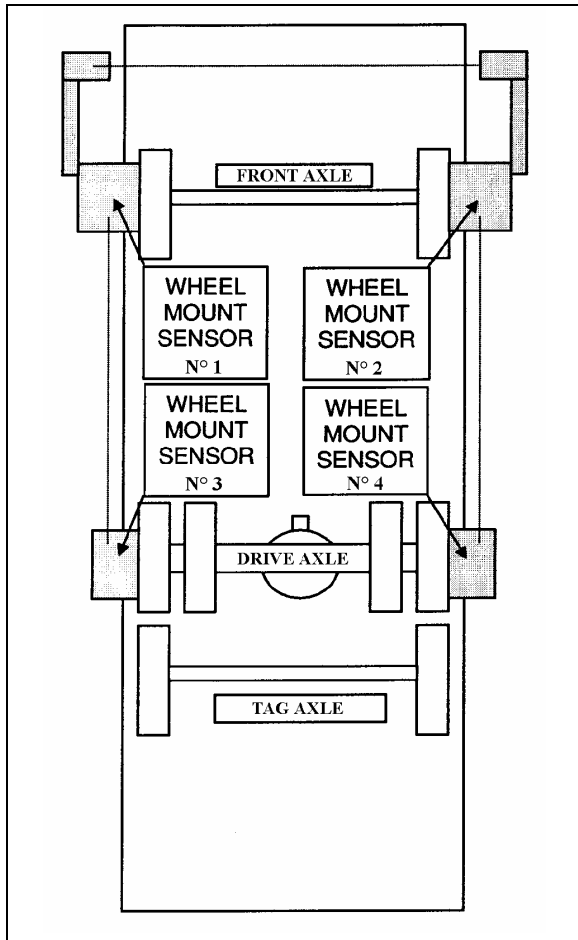

FIGURE 7: FRONT & DRIVE AXLE ALIGNMENT 11025
3. Install wheel mount sensors on front and drive axles (fig. 7). Adjust front axle according to appropriate specifications chart below.
See reference numbers on wheel mount sensors (fig.7).
- With the system installed as for front axle alignment (fig.7), adjust drive axle according to specifications' chart below.
Reinstall wheel mount sensors as shown in figure 7. For example, the sensor from the right side of the front axle is mounted on the left side of the tag axle. For corresponding wheel mount sensor reference numbers, refer to figure 7.